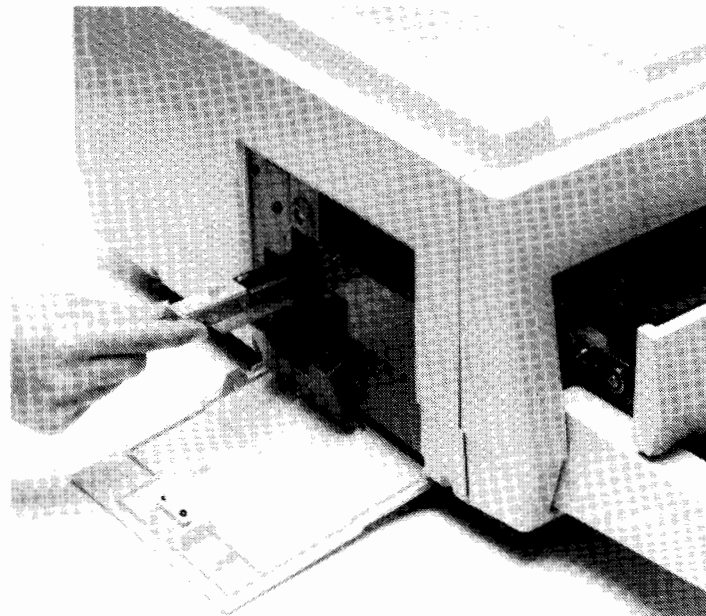

Figure 4-5. Removing Transfer Corona
- e. Remove the toner disposal bottle and pull out the transfer corona unit (figure 4-5). The transfer corona is orange and has the number 2 printed on the handle.